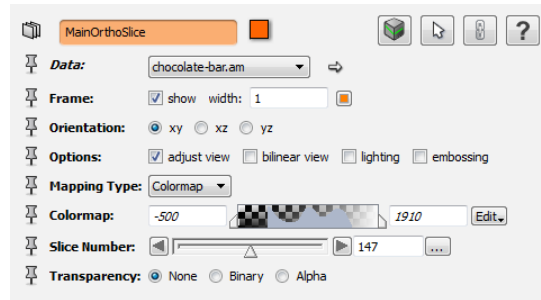

Figure 6.72: The *MainOrthoSlice* module properties.
- You may select the module *MainOrthoSlice* and adjust the colormap range of the edges area or transparency for better seeing the edge areas (see Figure 6.72).